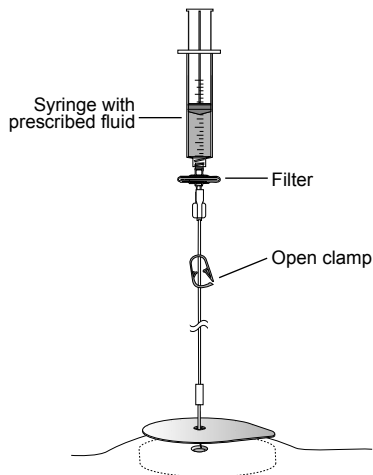

Figure 9. Open clamp and inject into pump reservoir.
3. Attach the syringe with the prescribed fluid and filter to the extension tubing set (Figure 9).